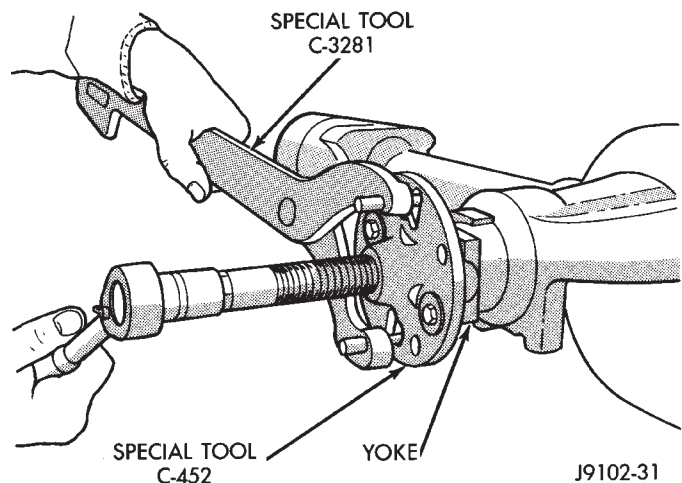

Fig. 15 Pinion Yoke Removal
(9) Use Remover C-452 and Wrench C-3281 to remove the pinion yoke (Fig. 15).
(10) Using Remover C-452 and Wrench C-3281, remove the pinion yoke from pinion shaft (Fig. 15).